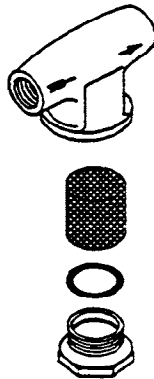

Figure 4-1. Strainer
2. Unscrew the filter cap from the bottom of the strainer which is located in back of the steamer. Refer to Figure 4-1.
3. Remove the filter screen and wash it with clean water. Refer to Figure 4-1.